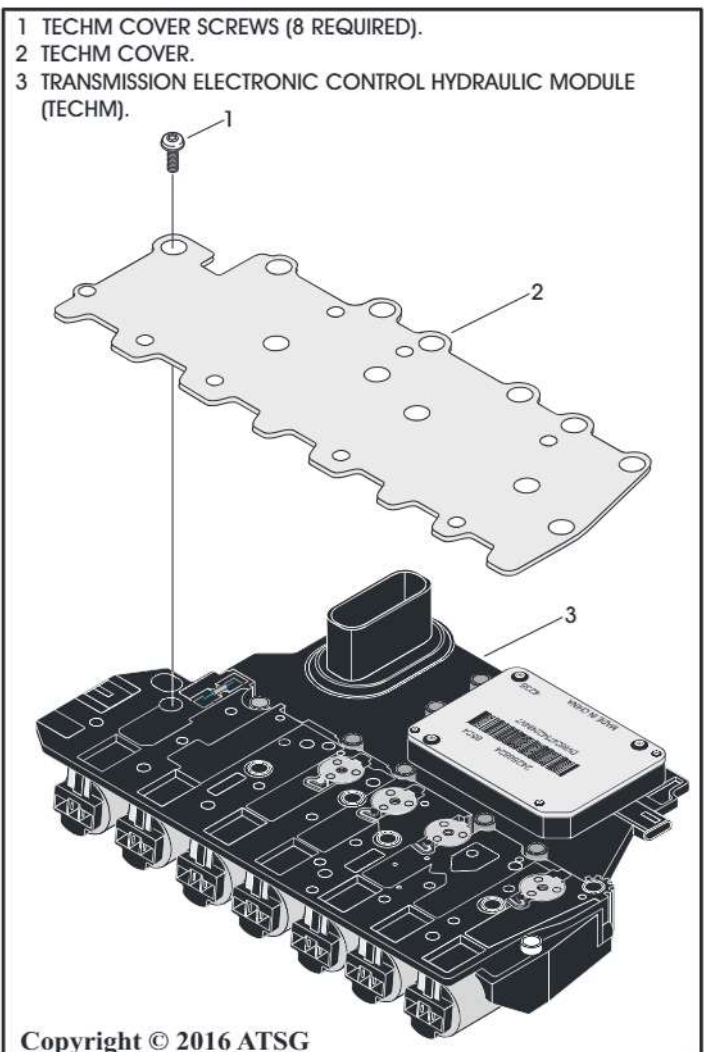

Figure 177
117. Turn the entire control unit/solenoid body assembly over and install the control unit cover with its eight (8) screws as shown in Figure 177.